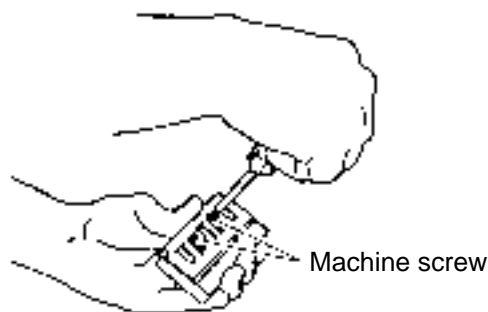

Fig. 1
A. Double edged type (See Figs. 1 and 2.)
- (1) Loosen the two machine screws holding the blade, set plate (A) and set plate (B).
- (2) Make the bent surface of set plate (A) flush with wall surface (b) after contacting the blade tip with wall surface (a) of set gauge. Then, tighten them with the two screws.
B. Resharpenable type (optional accessory) (See Figs. 1 and 3.)
- (1) Loosen the two machine screws holding the blade and set plate (A).
- (2) Adjust the planer blade height in the same procedure as the above.